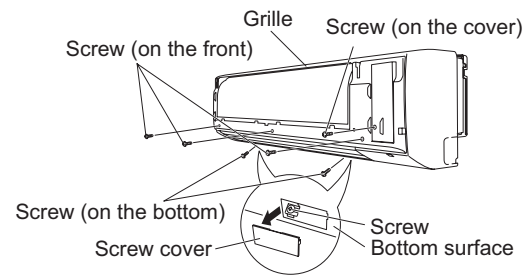

Fig. 2-207
- (3) Remove the 3 screws from the front of the unit and remove the screw covers on the bottom surface. Then remove the 2 screws. (Fig. 2-207)
- (4) Remove the screw on the right side cover plate and remove the cover. (Fig. 2-207)